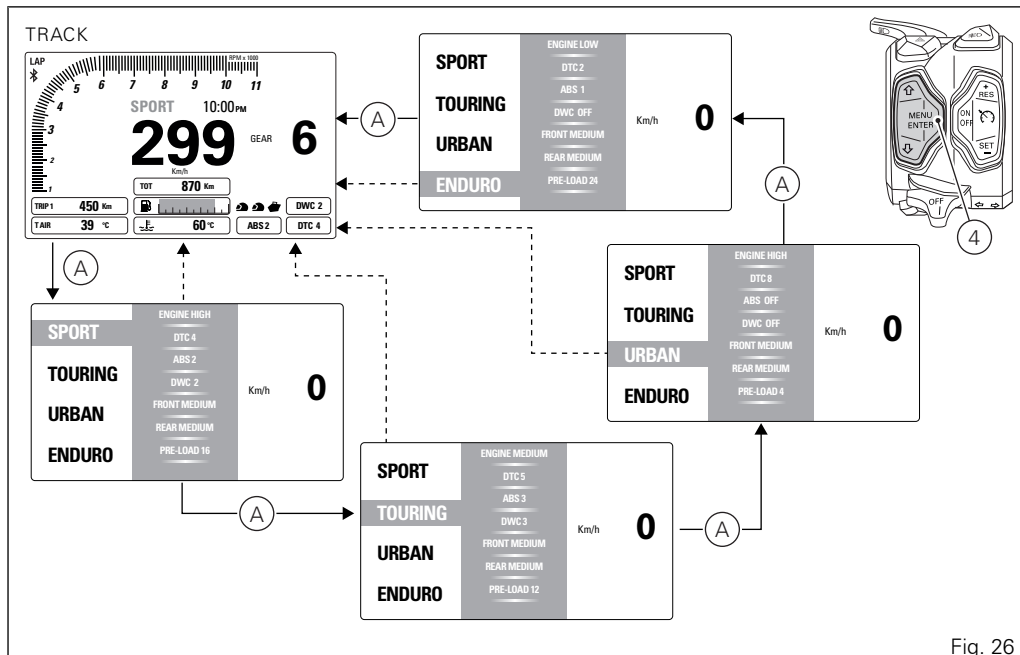

Fig. 26
Displayed information includes the values stored for each single Riding Mode. The stored settings may be the factory ones (Ducati default settings) or the ones customised by the owner. Any time CONFIRM MENU button (4) is pressed, the selected riding mode is highlighted together with the associated parameters (A, Fig. 26).